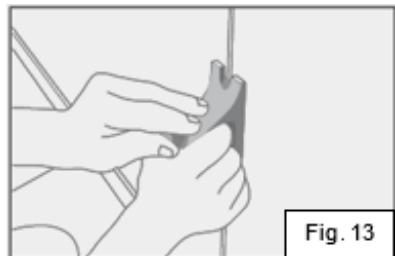

Fig. 13
- 8.16. Finally, use the Mozart skiving tool or quarter moon trimming knife to remove any excess of welding rod. This must be done in 2 passes. (fig.13).